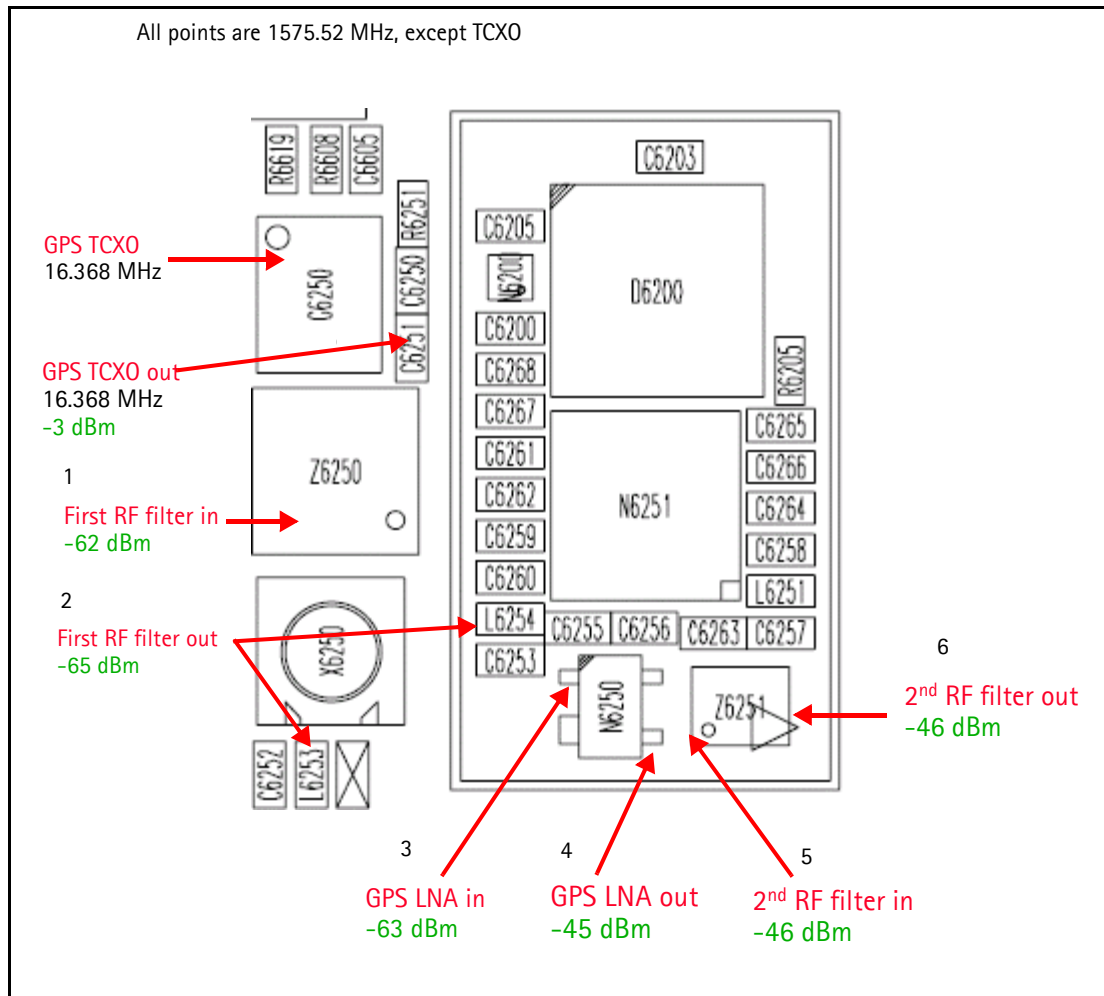

Figure 62: GPS RF Test points
4. Measure the test points with an AAS-10B probe and spectrum analyzer set at center frequency 1575.25MHz (span = 500kHz), or with a voltmeter as required. (See Figure 62.)